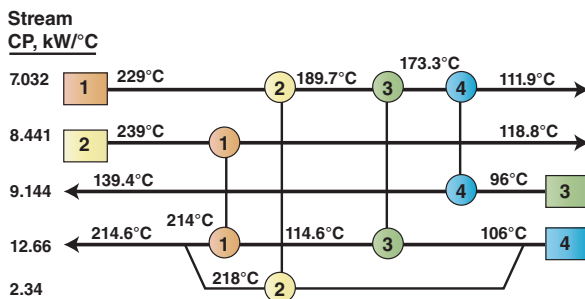

FIGURE 7. Network temperatures as a result of disturbance in Period 2, before corrections
By using the sensitivity tables (Tables 3, 4) and applying Equation (9) we can deduce the internal temperatures of the network as a result of combined disturbances for Period 2 (Figure 7).
By comparing Figures 4 and 7, we find variations in target temperatures due to the combined effect of variations in target temperatures from the base case and Period 2 (Table 1) and the disturbances in the streams' inlet temperatures and heat capacity flowrates. The target temperatures in Figure 7 need to be adjusted to those shown in Figure 4 by an increase or decrease in each heat exchanger's UA, but at the same time utilities need to be kept as close as possible to the target minimum values predicted by PDM. By using the downstream paths,